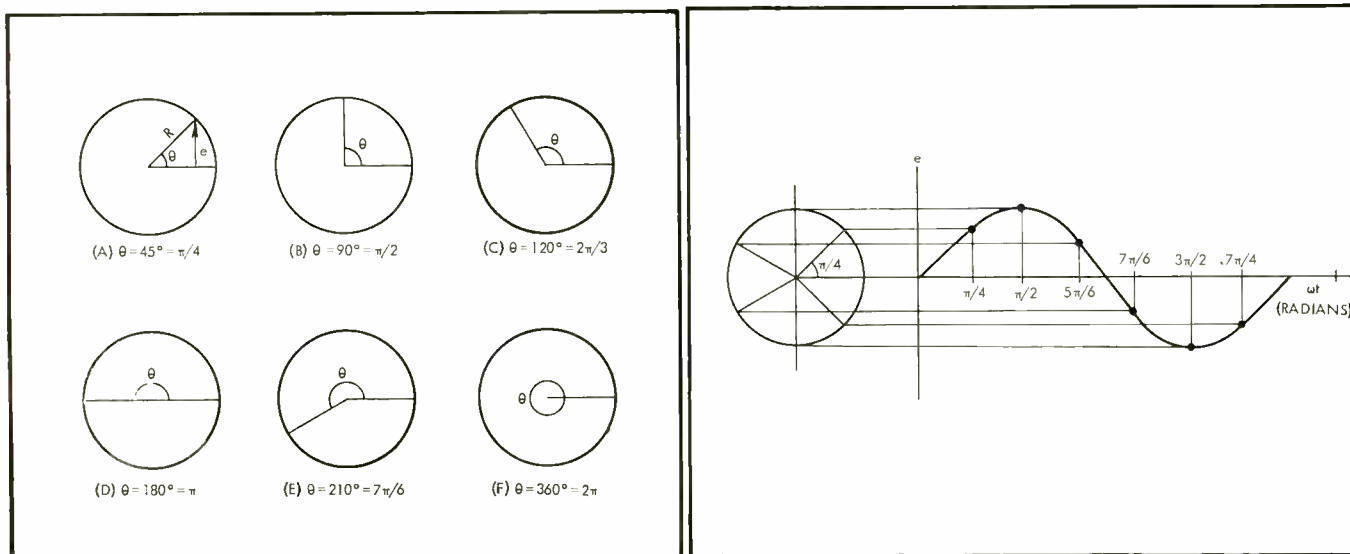

Fig. 1 (left). The various angles of θ . Fig. 2 (right). Graphical portrayal of the generation of a sine wave.
In (A) of Fig. 1, R is one of the radii. As the tip of the radius (a point on the circumference) rotates from θ to a , the radius must rotate through an angle θ . θ is an angle which can be measured in degrees. As drawn in (A), θ is 45 deg. In (B), θ is 90 deg. All the values of θ are noted on the drawing, until it rotated through the complete 360 deg. in (F).
The angle can also be designated in radians. There is a direct relationship between degrees and radians. In (F) of Fig. 1, 360 deg. = 2π radians. It follows that $2 \times 360^\circ = 2 \times 2\pi$ radians or $720^\circ = 4\pi$ radians. Several other intermediate relationships are shown in Fig. 1.
Returning to (A) of Fig. 1, it is desirable to find the sine of the angle θ for all values of θ . By definition,